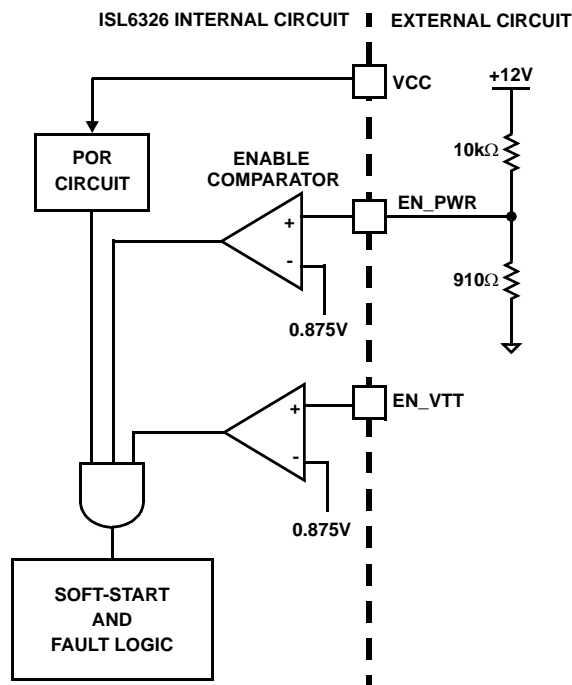

FIGURE 7. POWER SEQUENCING USING THRESHOLD-SENSITIVE ENABLE (EN) FUNCTION
2. The ISL6326 features an enable input (EN_PWR) for power sequencing between the controller bias voltage and another voltage rail. The enable comparator holds the ISL6326 in shutdown until the voltage at EN_PWR rises above 0.875V. The enable comparator has about 130mV of hysteresis to prevent bounce. It is important that the driver ICs reach their POR level before the ISL6326 becomes enabled. The schematic in Figure 7 demonstrates sequencing the ISL6326 with the ISL66xx